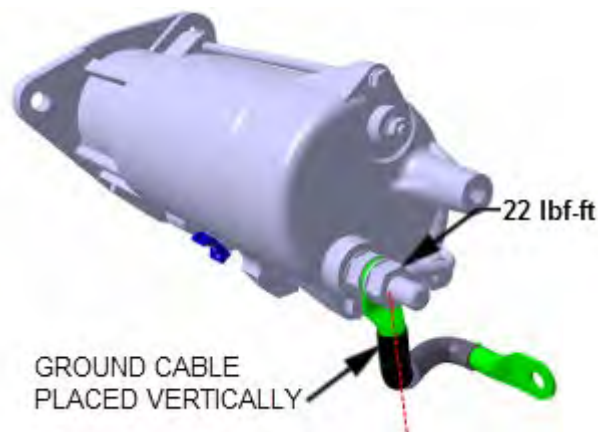

FIGURE 9
5. Connect the ground cable (circuit 0C) to the ground terminal first. Make sure the ground cable extends vertically downward from the terminal as shown on **FIGURE 9**.